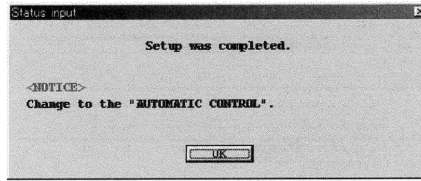

Fig.37
- ⑥ When the previous settings are replaced with the new settings just entered in response to clicking on "OK", a message box as shown in Fig. 37 appears. Clicking on "OK" button at this point completes the setup.